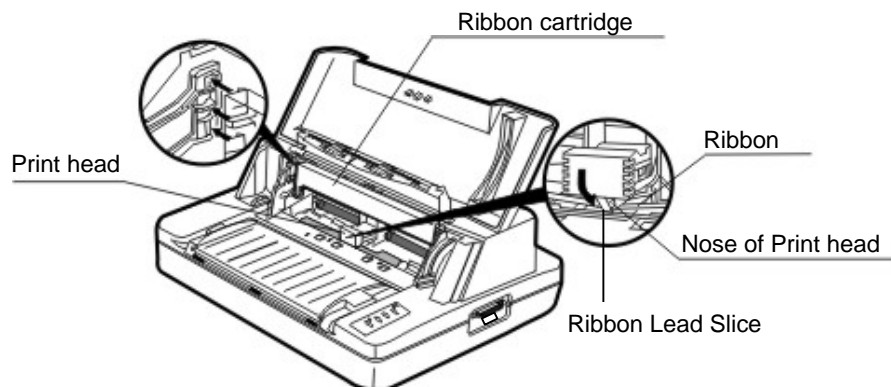

Figure 2-7 Installing the ribbon cassette
- 6 To install the ribbon cartridge, hold it with both hands, with the ribbon facing down as shown if Figure 2-7.